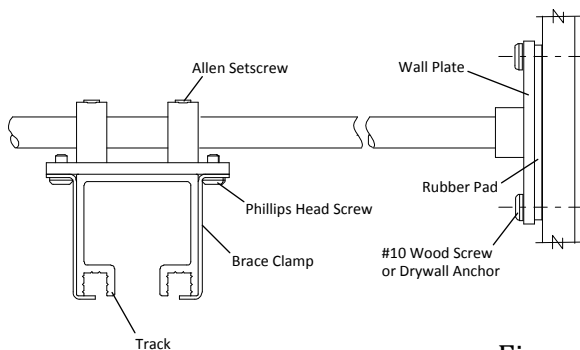

Figure 6
- a. Loosen two Phillips head screws on brace clamps (see Figure 6) and move side braces to anchor-wall side of carousel, near the cross arms.